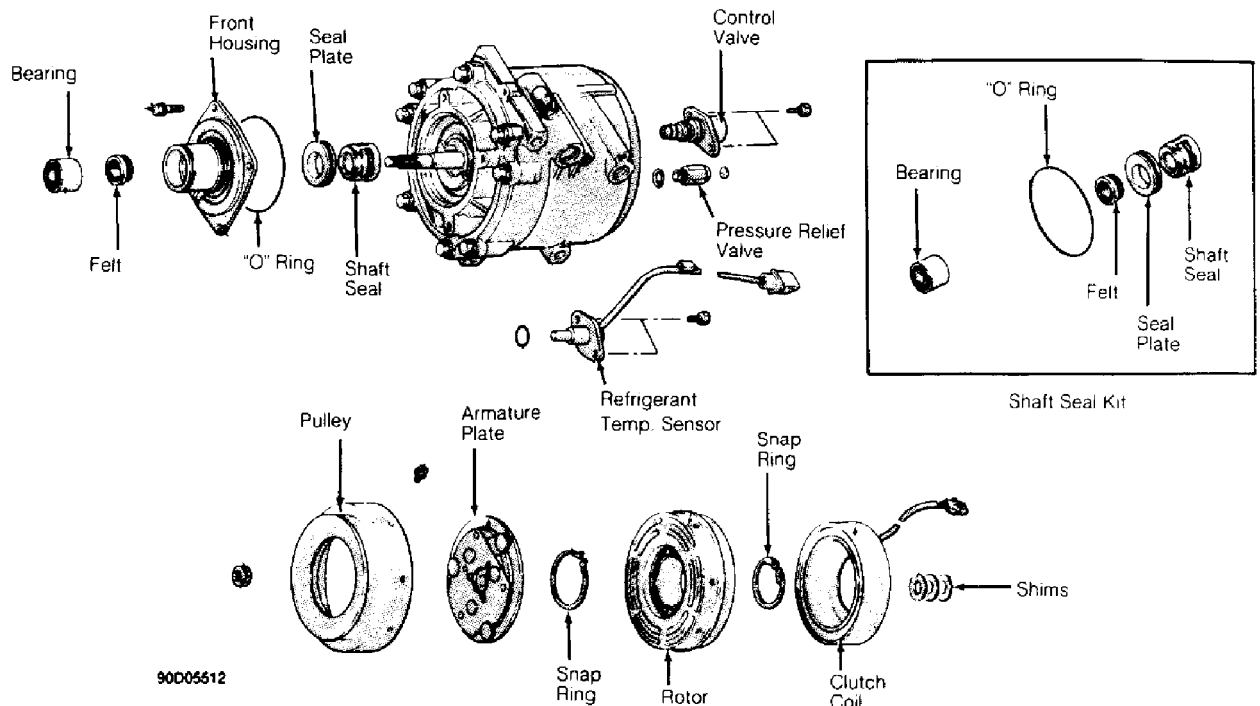

Fig. 7: Harrison R-4 Radial Compressor
2) Using Seal Installer (J-33011), install "O" ring and coat with refrigerant oil. Coat seal seat with refrigerant oil and install using seal seat remover/installer. Install snap ring. Install dust seal (if supplied in seal kit). See Fig. 7.